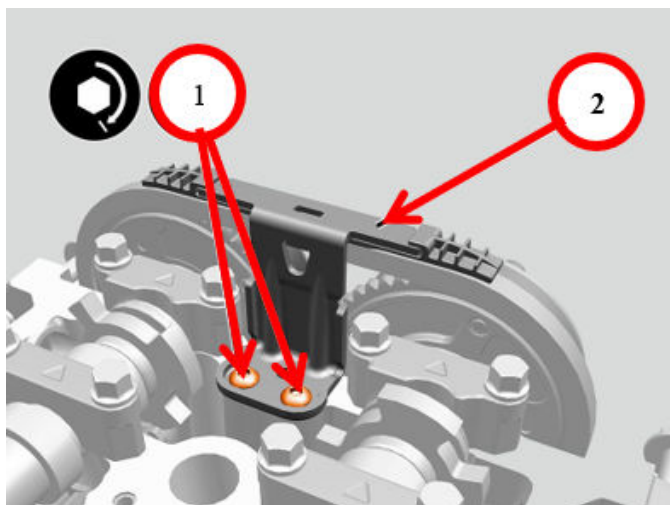

Fig. 3
- Put the **NEW** cylinder head side fixed tensioner pad snubber in place and tighten the fixing screws to 0.9 ± 0.1 daNm (90 ± 0.1 cN) Fig. 3.